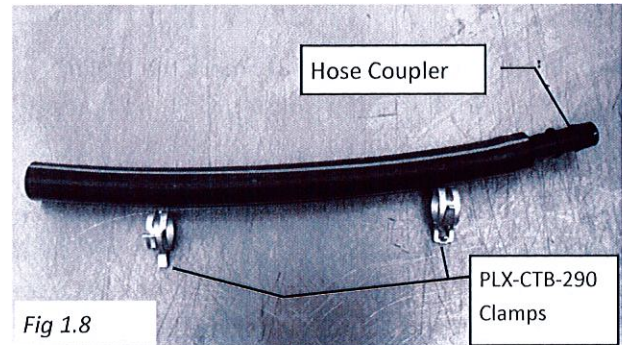

Fig 1.8
9. Install a PLX-CTB-290 clamp onto each end of the 8 inch, 3/4" diameter hose (see fig 1.8).
10. Install the hose coupler in one end of the hose as shown in fig 1.8. Verify that the coupler is fully seated into the hose .